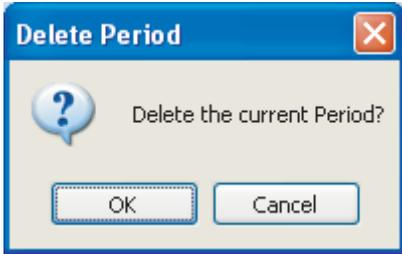
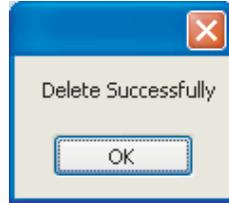

Fig.4-42
Fig.4-43
g. Delete key (See the ④ key in the figure) ——select a Period and click the key, the current selected Weekly Timing setting period could be deleted. Click the key, window as Fig. 4-42 shows, click “OK” to delete Period. Successful delete the Period, message box as Fig. 4-43 will show.